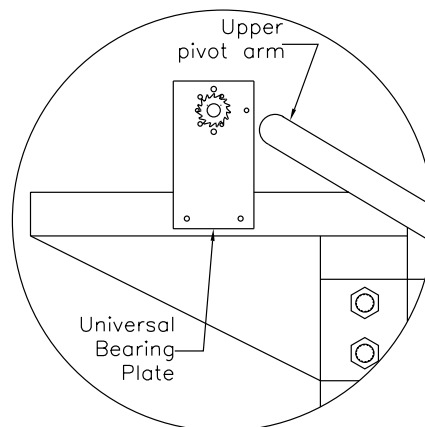

FIGURE 1
- 2) Slide one of the upper pivot arms into a lower arm. Adjust the arm length until the corner rests on the desired landing point at the back of the box and at the head assembly. If the upper arm is too long, cut both upper arms to allow at least 2 feet of upper pivot arm sticking into the lower pivot arm. (See figure 1)